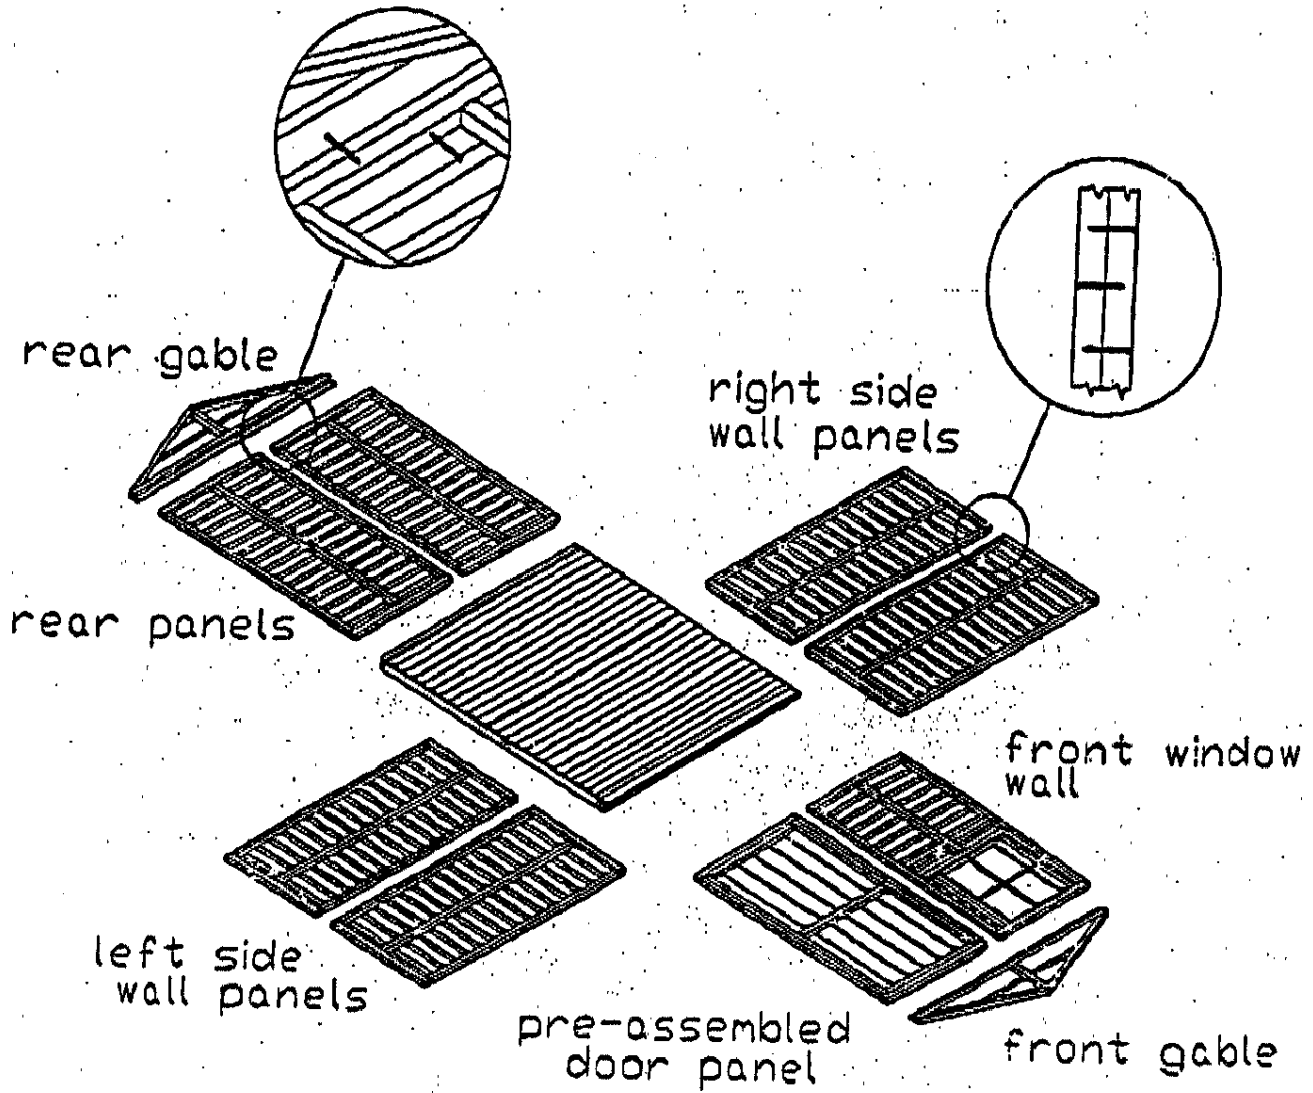

Figure C2
2. Once the panels are completed, begin fastening them together, starting with the left side and then the rear [see Figure C2]. The detail in Figure C2 shows the alternate screw pattern for fastening the 2x3 wall frames together.